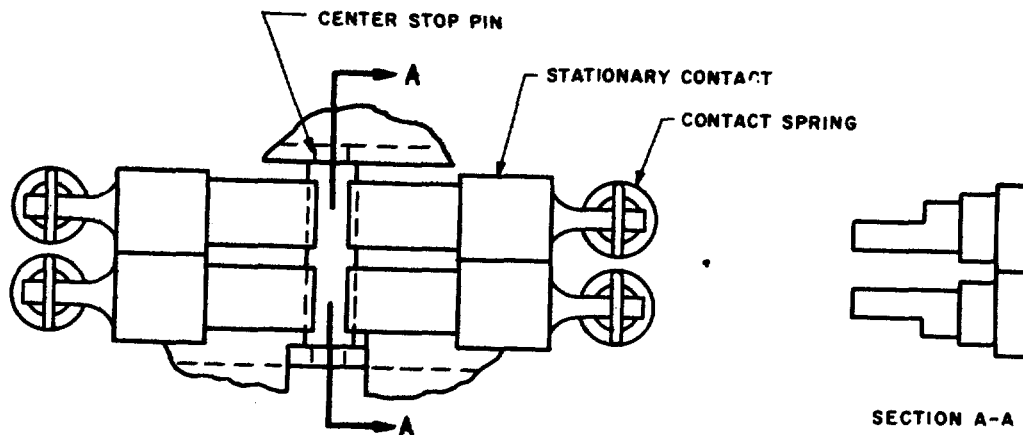

Fig. 7 - Positioning of Stationary Contacts
(8) With the 5-inch E screwdriver, force a stationary contact away from the center stop pin and toward its own pivot point until the contact stop surface is free of the center stop pin. The contact can then be removed with the fingers by disengaging the contact from its spring.
(9) In reassembling, the stationary contacts must be arranged in the pole units as shown in Fig. 7. Note the position of the back projection of each contact. If the contacts are not arranged as shown in Fig. 7, the back of the contacts will bear against the stud supports, causing possible damage to the contacts or failure of the breaker to latch in, when the breaker is closed.